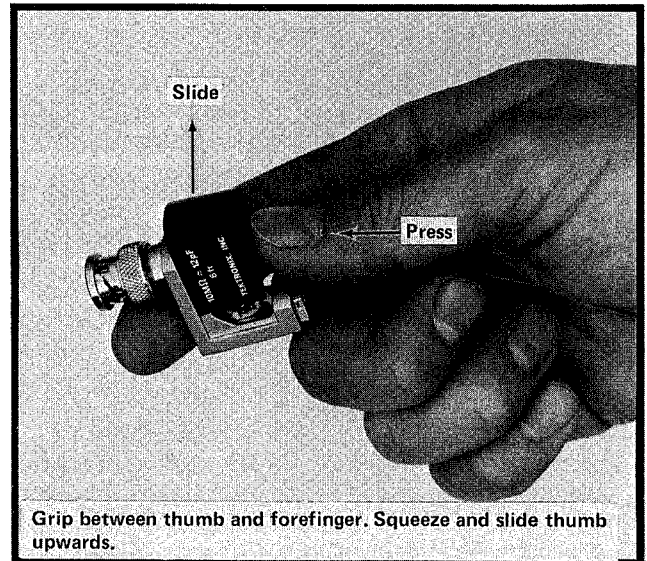

Fig. 3-1. Removal of cover on compensation box.
1. Remove the snap-fit cover on the compensation box. See Fig. 3-1 for instructions.
1. Remove the snap-fit cover on the compensation box. (See Fig. 3-1.)